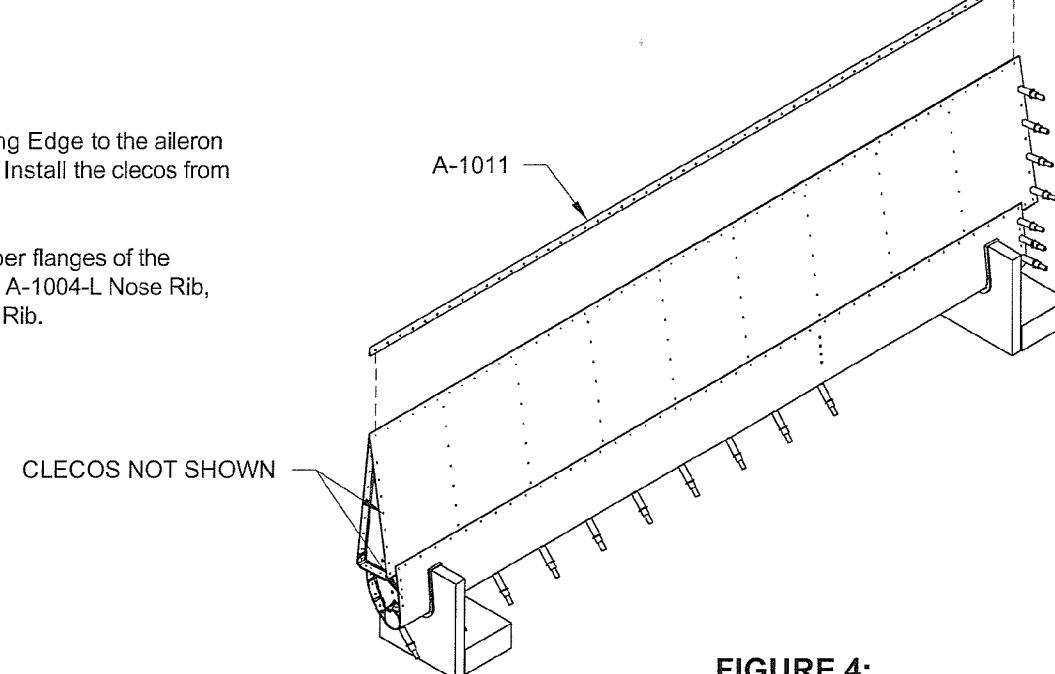

FIGURE 4:
Step 4: Cleco the A-1011 Trailing Edge to the aileron assembly as shown in Figure 4. Install the clecos from the A-1001B Top Skin side.